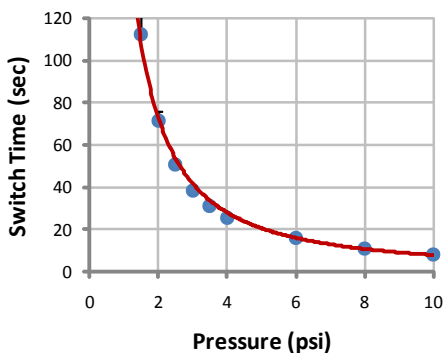

Figure 7 Flow Switching
- Place assembly on an inverted microscope. The plate frame will fit to any standard 96 well plate holder. Focus on the center of the "imaging" well (D). The cells will be adhered to the #1.5 thickness (170 μ m) glass coverslide, which forms the bottom surface of the culture unit.
- Use the ONIX FG computer program to schedule flows to the cells. Flow rates are given in Figures 7 and 8. The switch time is defined as the time to completely refresh the chamber medium volume. It will take about 2-3 minutes to flush out the residual PBS in the upstream channels the first time a channel is used. Except in cases where rapid switching is desired, flow at 2-3 psi is recommended.